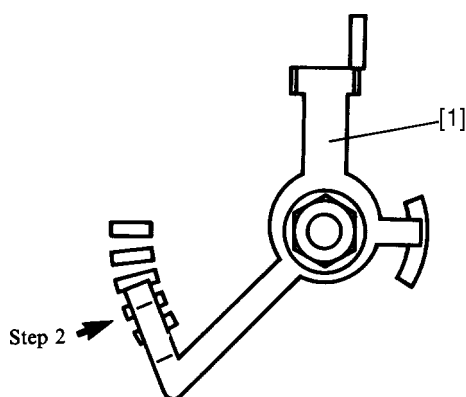

Fig. 3-2 Position of Adjustment Lever
- (4) After adjusting, set the adjustment lever [1] to the position shown in Fig. 3-2 and tighten the nut [6].
- (1) Remove the upper case unit according to the procedures described in chapter 4.
- (2) Move the carriage unit [2] right and left two or three times in order to familiarize yourself with the timing belt [3].
- (3) Set the adjustment lever [4] to step 2 as shown in Fig. 3-2.
- (4) Move the carriage unit [2] to the right end.
- (5) Set the arm [5] of the tension gauge [1] 152 mm from the frame L.
- (6) Move the tension gauge [1] in the direction of the platen [6] until it stops. Then place the arm [5] of the tension gauge on the timing belt [3].
- (7) Loosen the screw [7].
- (8) Insert a flat-blade screwdriver into the square hole of the tension arm [8] and adjust the belt tension by moving the tension arm [8] left or right.
- (9) When the belt has been adjusted to the prescribed tension, tighten the setting screw [7].
- (10) If the belt cannot be adjusted to the prescribed tension, replace it with a new timing belt [3].